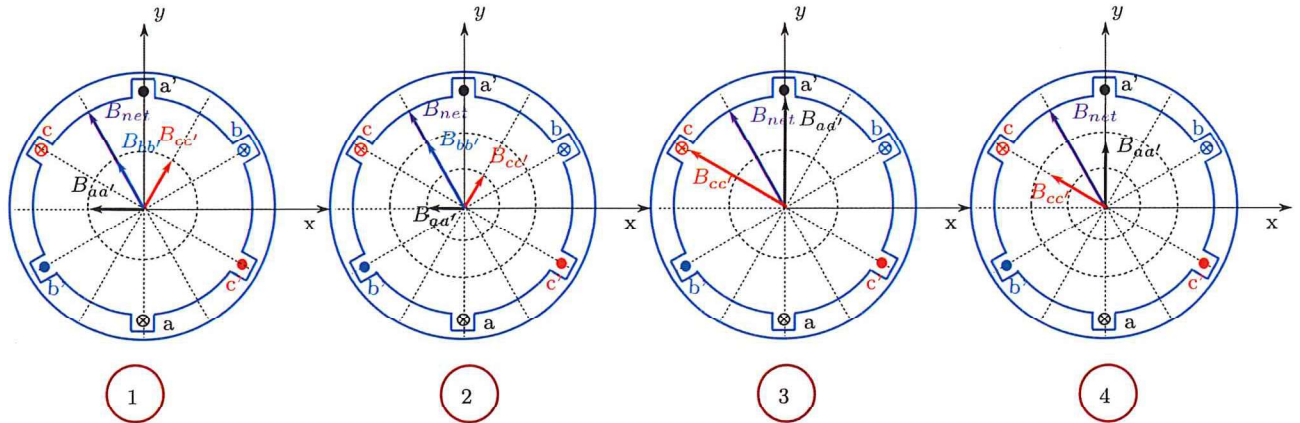

Figure 3: Space vector diagrams.
- [6.7%] Which one of the space vector diagrams shown in Fig. 3 is correct?